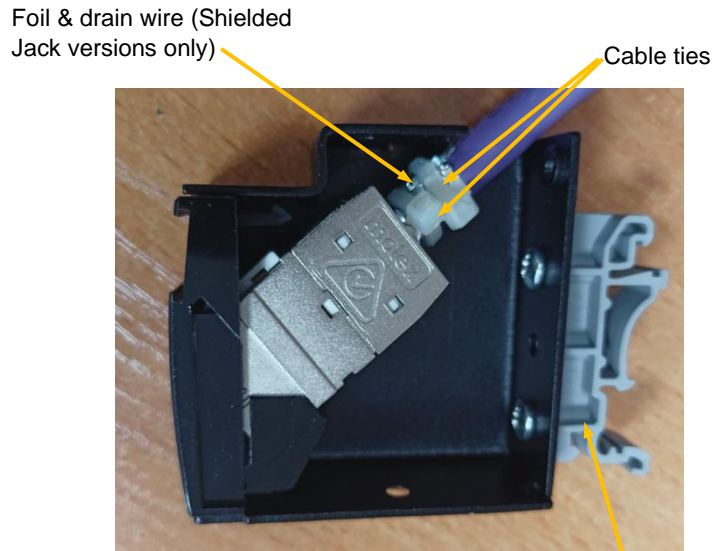

Fig. 3F
- Tie the cable of the jack assembly to the hook feature using cable tie tightly enough, to make sure that foil and drain wire makes good contact with masked region on hook feature (only for shielded jack versions) (Fig 3F).